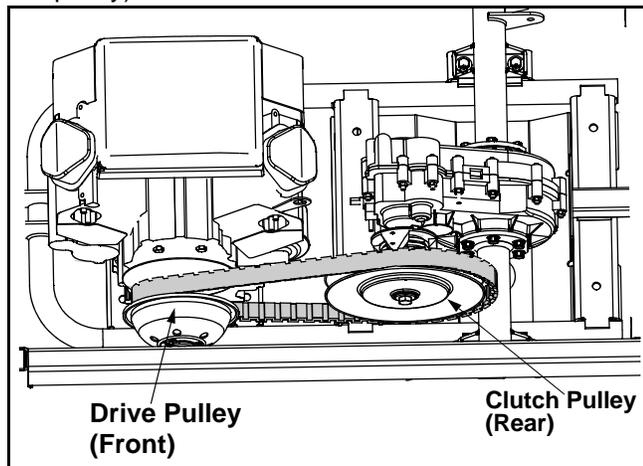

Figure 19
- Route belt from drive pulley (rear pulley). See Figure 19.